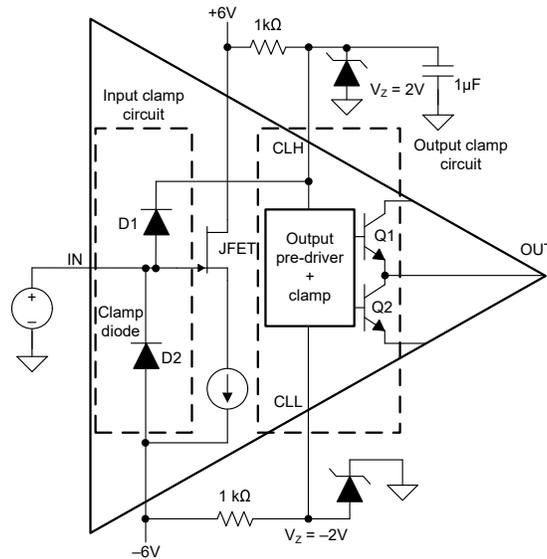

Figure 7-1. Internal Input and Output Overvoltage Clamp
- Figure 7-1 shows the input of the BUF802 tied to pins CLH and V_{S-} through two internal clamp diodes, D1 and D2. The diodes are rated for 100mA of continuous current and withstand much higher transient currents. If the JFET input voltage exceeds the voltage at CLH or V_{S-} , the diodes are forward biased, clamping the JFET to CLH and V_{S-} . A 1µF capacitor connected in parallel to the zener diode helps in transient absorption traveling through the D1 diode.